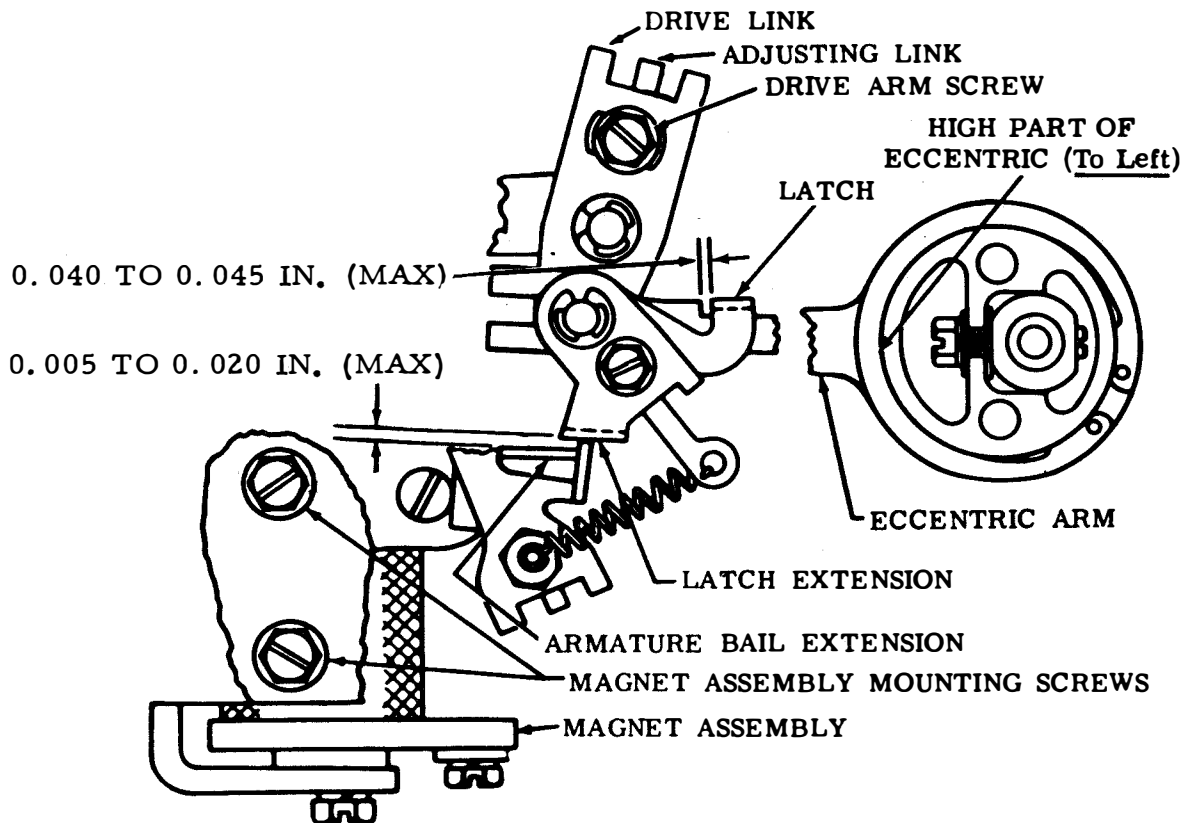
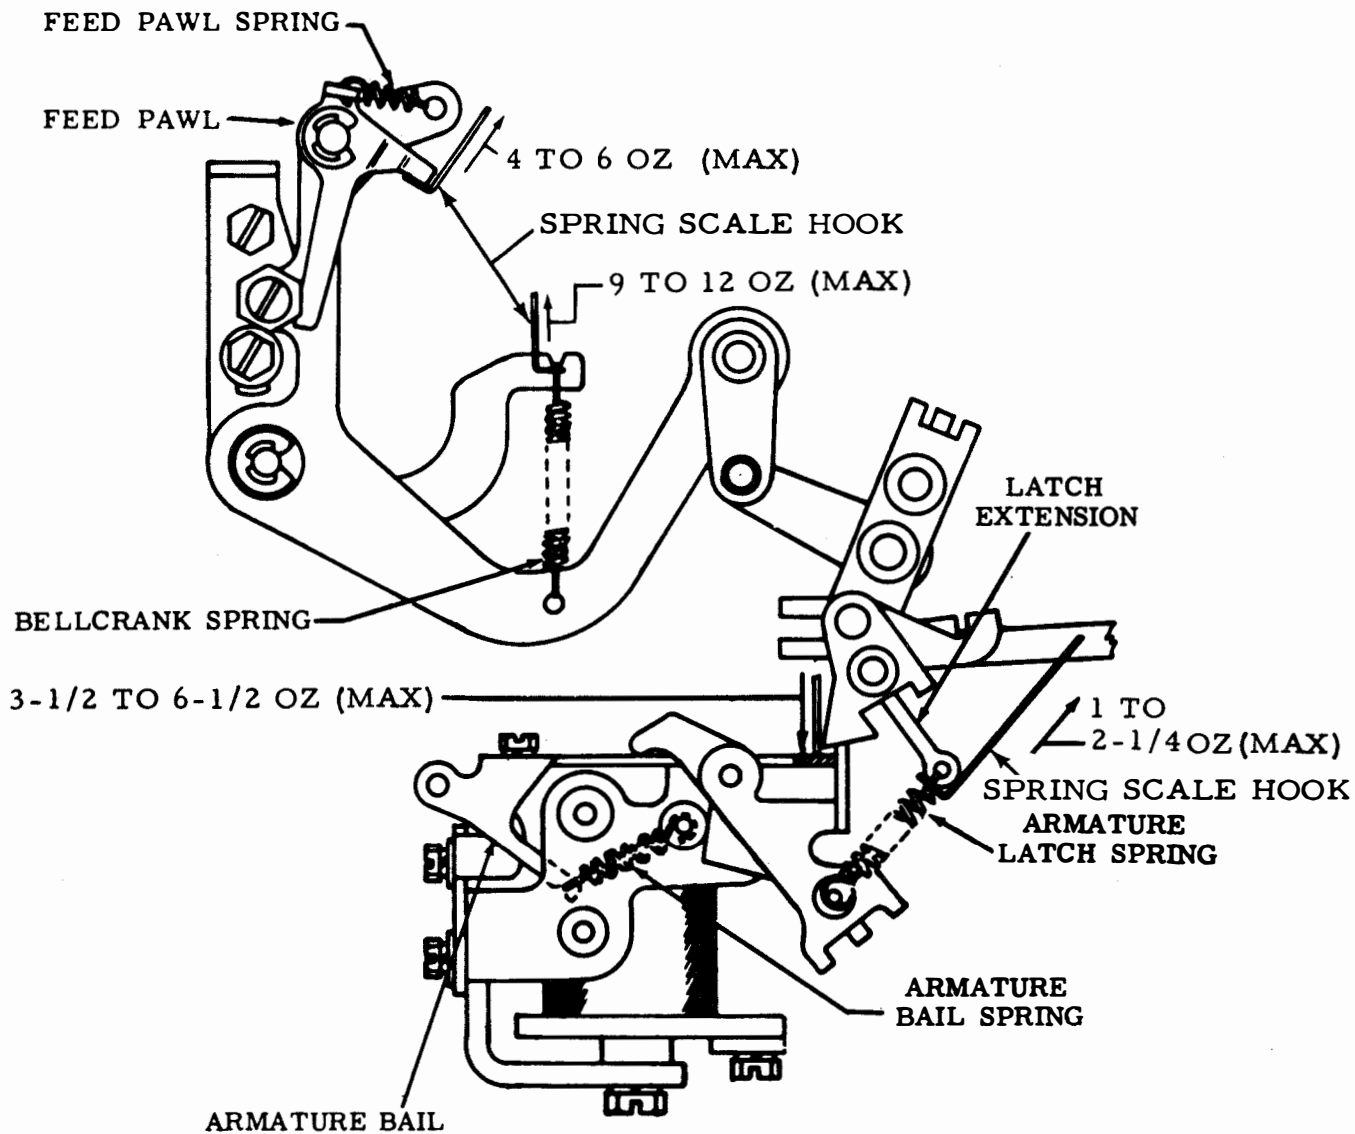

Figure 6-310. Drive Link and Latch Extension
Figure 6-311. Feed Pawl, Bellcrank, Armature Latch, and Armature Bail Springs
(a) Refer to figure 6-310.
- (a) Refer to figure 6-310.
- (5) Feed Pawl Spring. Adjust as follows:
- (a) Refer to figure 6-311.
- (6) Bellcrank Spring. Adjust as follows:
- (7) Armature Latch Spring. Adjust as follows:
(a) Refer to figure 6-311.